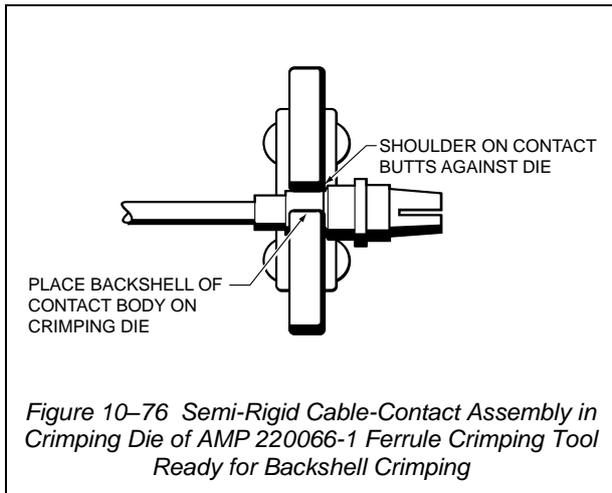

Figure 10-76 Semi-Rigid Cable-Contact Assembly in Crimping Die of AMP 220066-1 Ferrule Crimping Tool Ready for Backshell Crimping
**111. Inserting Contacts.** An insertion tool is not required for inserting these contacts. To insert a contact, align it with the back of the contact cavity and push it straight into the connector until it bottoms. Pull back lightly on the cable to make certain the contact is locked in the cavity. Slide the sealing boot over the cable and into the contact cavity until the collar of the seal butts against the insert as shown in Figure 10-76. Slight rotation of the seal will ease insertion.